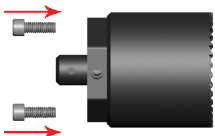

Figure 3
3.0.1) Screw the 4-inch core sampling cutter to the adaptor and lock in place with cutter hardware (see Figure 3).